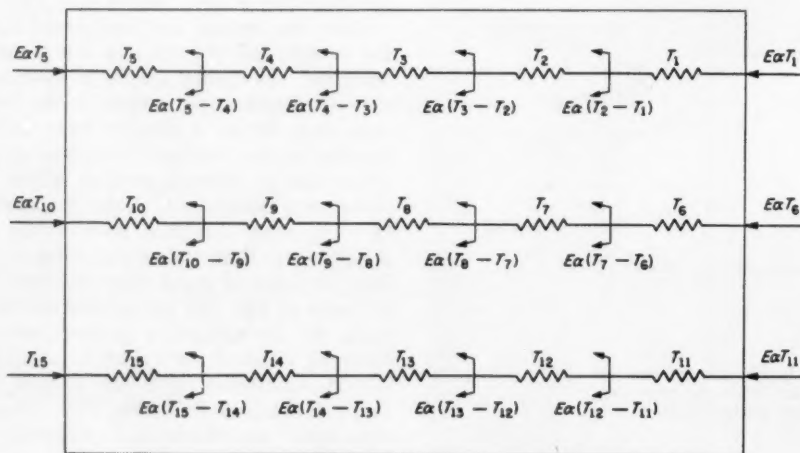

Fig. 53—Spring analogy for temperature variation along beam axes
**Beam with Axial Temperature Variation:** When the temperature varies axially, each axial element must be replaced by a series of springs at a different temperature, Fig. 53. To return each spring to its undistributed length requires the distributed external loading system shown. These forces are such that the net force on the  $n$ th spring is  $-E\alpha T_n$ , where  $T_n$  is the temperature of the  $n$ th spring. This set of forces corresponds to the distributed body force system  $-E\alpha \partial T / \partial x$  and the surface forces  $E\alpha T$  in the case of an elastic continuum.